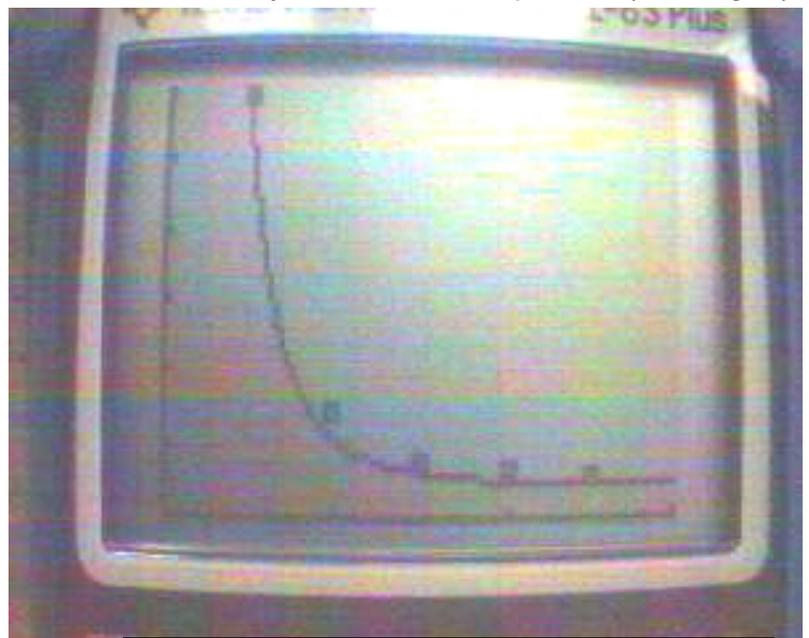

Fig. 7 The data, with the "theoretical" function $A X^{-3} + B$ plotted over it as a solid line.
- Press "Graph." The function you typed in should closely match the data points. (See Fig. 7)